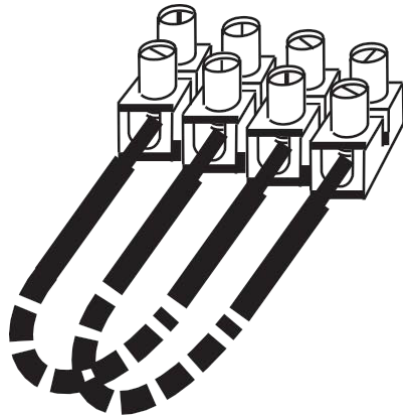

Fig. 9: Temporary Loop Connection
At this stage, do not wire in any isolator bases, or other modules, or fit the detectors. This is to avoid potential damage caused by the high voltage insulation checks. Use strip connectors (Fig. 9) for any temporary connections, to preserve continuity.
- 3 Connect the loop wiring tails to a strip type connector block, with screw terminals, as shown in Fig. 9. Leave the wiring loose within the panel.
- 5 Remove the temporary connections that you had made to the connector block, (Fig. 9).